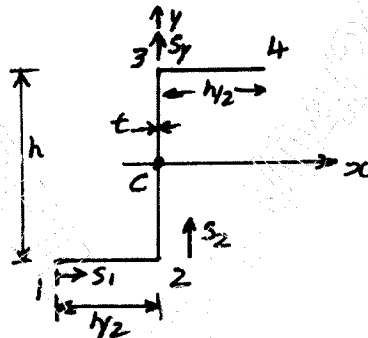

Fig Q3(b)
b. Determine the shear flow distribution in thin walled 'Z' section shown in Fig Q3(b) due to shear load  $S_y$  applied through the shear center of the section.